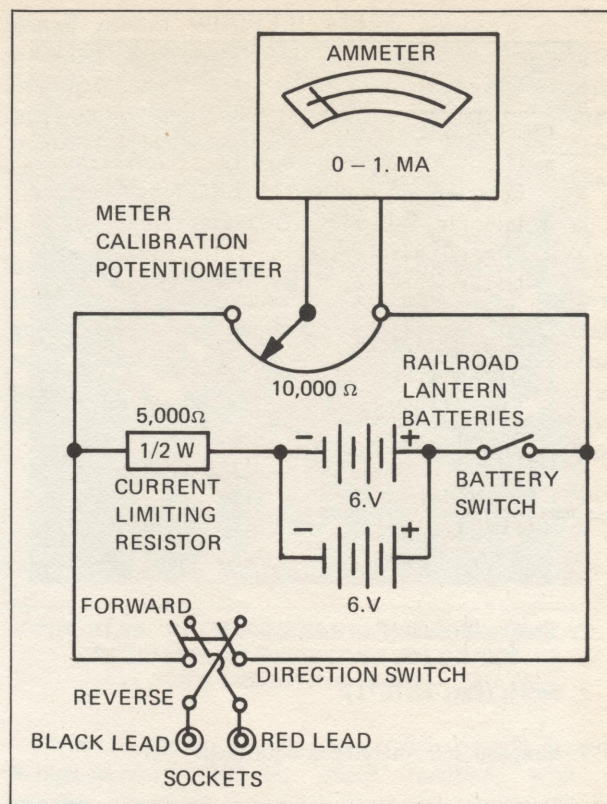

FIG. III-31. DIODE TEST UNIT SCHEMATIC.
1. A quick check of the rectifying diodes may be accomplished without disconnecting them, using the Test Unit; the schematic of which is shown in Fig. III-31. Complete instructions for building and using this unit can be obtained from your General Electric locomotive representative.